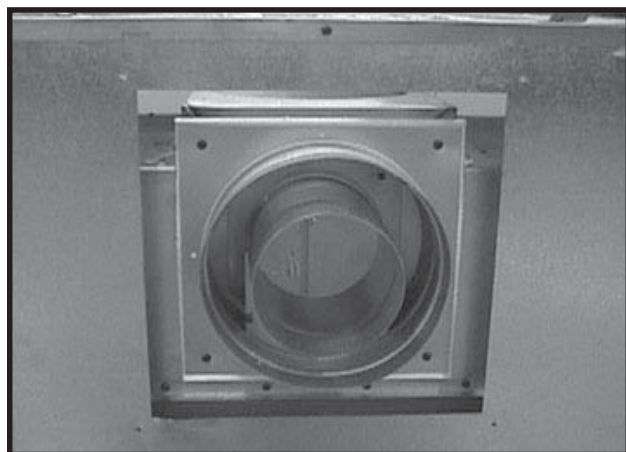

Figure 14 - Place Outer Collar on Rear of Appliance
- j. Place the outer collar on the rear of the appliance and replace the four screws that hold this collar in place. See Figure 14.